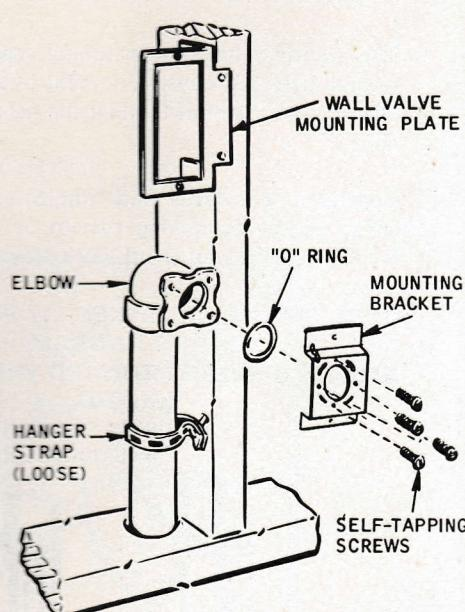

FIGURE 11 – SECURING TUBING AND MOUNTING BRACKET.
- Assemble "O" ring and mounting bracket to elbow, using the four screws through the slotted holes in bracket. Make sure "O" ring is properly seated before adjusting for alignment with stud. Tighten screws completely. Use perforated strapping, hangers or clamps to firmly support the tubing (Figure 11).